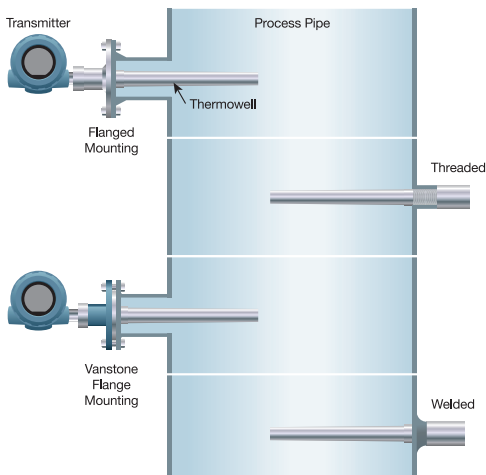

Figure 3.3.4a – Thermowell Mounting Methods
- Ensure that the proper thermowell design has been purchased and it is accordance with the specification for pressure rating and materials of construction Figure 3.3.4a.